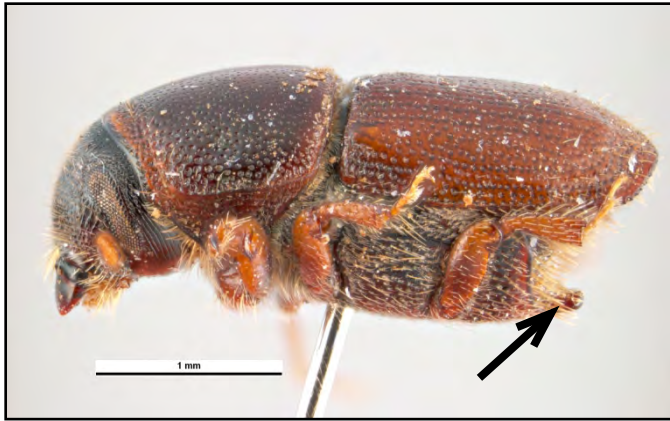

Fig. 2. European elm bark beetle (*Scolytus multistriatus*).2 Notice the "fingernail-like" appearance and spine on the insect's rear.
**Identification:** Small beetle two to three mm long without black bands across the wings (as compared to banded elm bark beetle); from the side, the rear of the beetle appears to have a "finger nail" shape and a spine (Fig. 2).